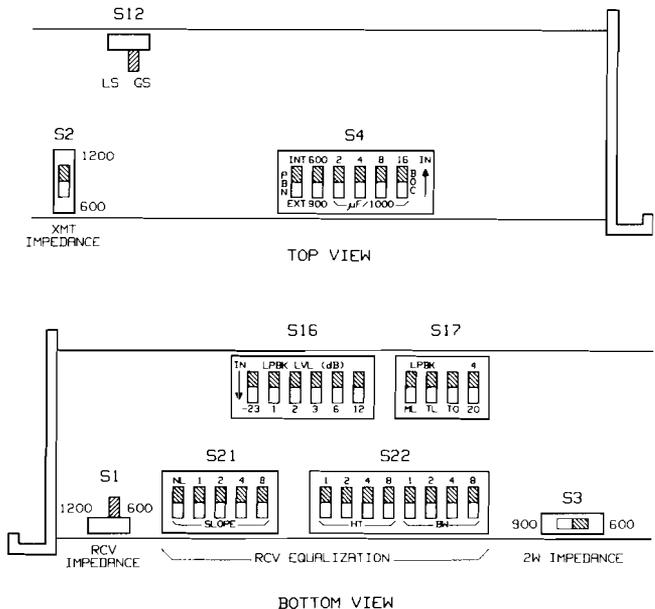

figure 5. 6164X option switch locations
3.06 A number of option switches must be set before the 6164X can be placed into service. These switches and their functions are described in paragraphs 3.07 through 3.11. The locations of the switches on the module's printed circuit board are shown in figure 5. Table 5 summarizes all switch options and provides a convenient checklist for optioning the module.